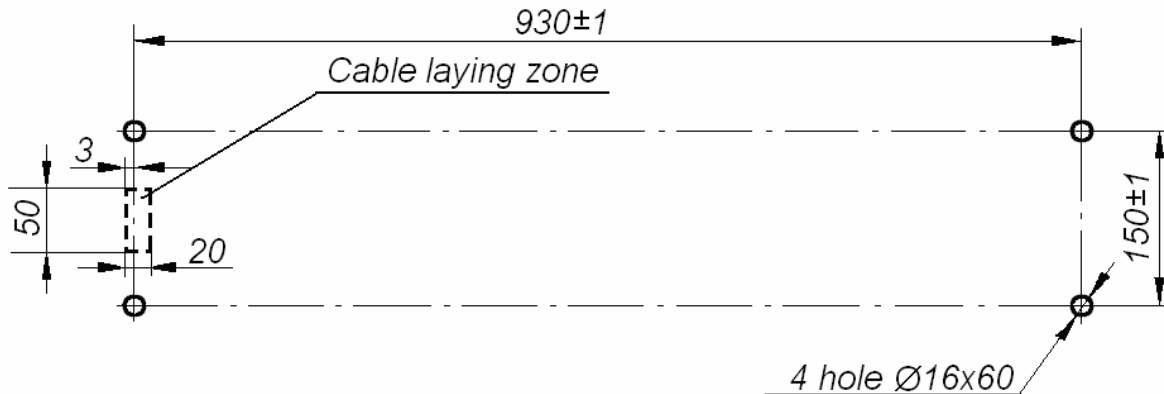

Fig. 10. Hole pattern for the turnstile housing mounting
- to mark the mounting holes according to Fig. 10;
8.4.2 Drill the holes for anchor bolt sleeves for fixing of the turnstile housing (see Fig. 10).
8.4.3 If you lay the cables under the floor surface, prepare the electric raceway to the cables laying zone of the turnstile housing (see Fig. 10).